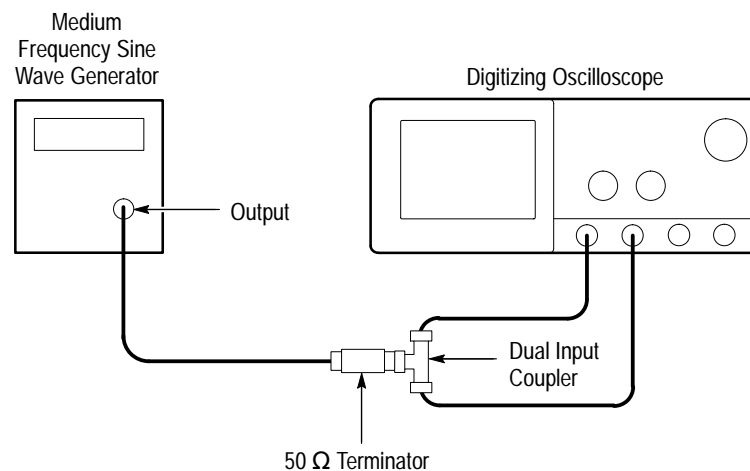

Figure 4–9: Initial Test Hookup
- Connect, through a 50  $\Omega$  precision coaxial cable followed by a 50  $\Omega$  termination, the sine wave output of a medium-frequency sine wave generator to a dual-input coupler. See Figure 4–9.
- Connect the coupler to both **CH 1** and **CH 2**. See Figure 4–9.